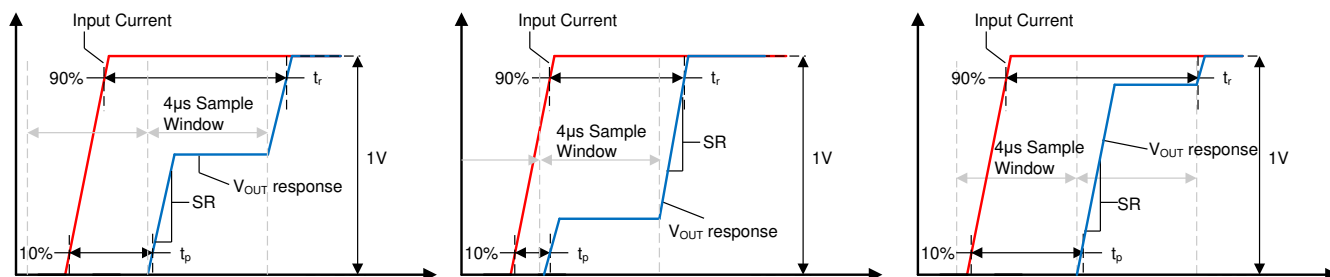

图 8-3. Small Current Input Step Transient Response
Slew rate (SR) is defined as the  $V_{OUT}$  rate of change for a single integration step's output transition, as shown in 图 8-3. Because the device often requires two sampling windows to reach a full 90% settling of its final value, this slew rate is not equal to the 10%-90% transition time for the full output swing.
Propagation delay is the time period between the input current waveform reaching 10% of its final value and  $V_{OUT}$  reaching 10% of its final value. This propagation delay is heavily dependent upon the alignment of the input current step and the sampling period of the TMCS1107, as shown for several different sampling window cases in 图 8-3.
Response time is the time period between the input current reaching 90% of its final value and the output reaching 90% of its final value, for an input current step sufficient to cause a 1-V transition on the output. 图 8-3